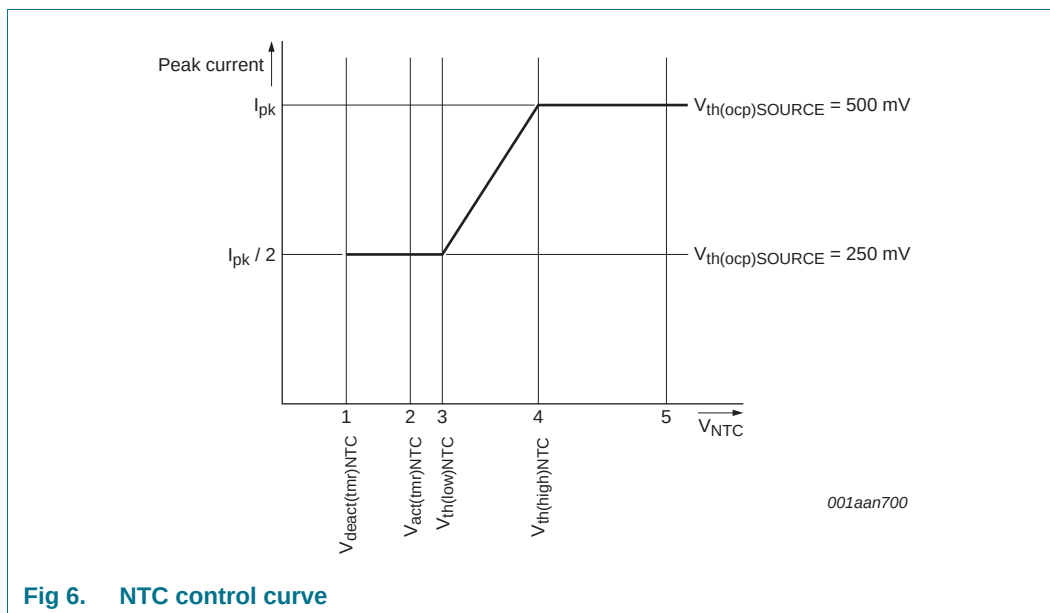

Fig 6. NTC control curve
The NTC pin can be used as a control method for LED thermal protection. Alternatively, the pin can be used as an input to disable/enable light output using a digital signal (PWM dimming). The pin has an internal current source that generates the current of $I_{offset(NTC)}$. An NTC resistor to monitor the LED temperature can be directly connected to the NTC pin. Depending on the resistance value and the corresponding voltage on the NTC pin, the converter reacts as shown in Figure 6.
When the voltage on the NTC pin exceeds $V_{th(high)NTC}$ (see Figure 6 \(4\)), the converter delivers nominal output current. When the voltage is lower than this level, the peak current is gradually reduced until $V_{th(low)NTC}$ is reached (see Figure 6 \(3\)). The peak current is now half the peak current of nominal operation. When $V_{act(tmr)NTC}$ is passed (see Figure 6 \(2\)) a timer starts to run to distinguish between the following situations:
- If the low-level $V_{deact(tmr)NTC}$ is not reached within time $t_{to(deact)NTC}$ (see Figure 6 \(1\)) LED overtemperature is detected. The IC stops switching and attempts to restart from the HV pin voltage. The converter restarts from an NTC protection shutdown when the voltage on the NTC pin exceeds $V_{th(high)NTC}$ (see Figure 6 \(4\)). It is assumed that the reduction in peak current does not result in a lower NTC temperature and LED OTP is activated.
- If the low-level $V_{deact(tmr)NTC}$ is reached within the time $t_{to(deact)NTC}$ (see Figure 6 \(1\)) it is assumed that the pin is pulled down externally. The restart function is not triggered. Instead, the output current is reduced to zero. PWM dimming can be implemented this way. The output current rises again when the voltage is higher than $V_{th(low)NTC}$.
The NTC pin can be used to make a soft start function. During switch-on, the level on the NTC pin is low. By connecting a capacitor (in parallel with the NTC resistor), a time constant can be defined. The time constant causes the level on the NTC pin to increase slowly. When passing level $V_{th(low)NTC}$ (see Figure 6 \(3\)), the converter starts with half of the maximum current. The output current slowly increases to maximum when $V_{th(high)NTC}$ (see Figure 6 \(4\)) is reached.